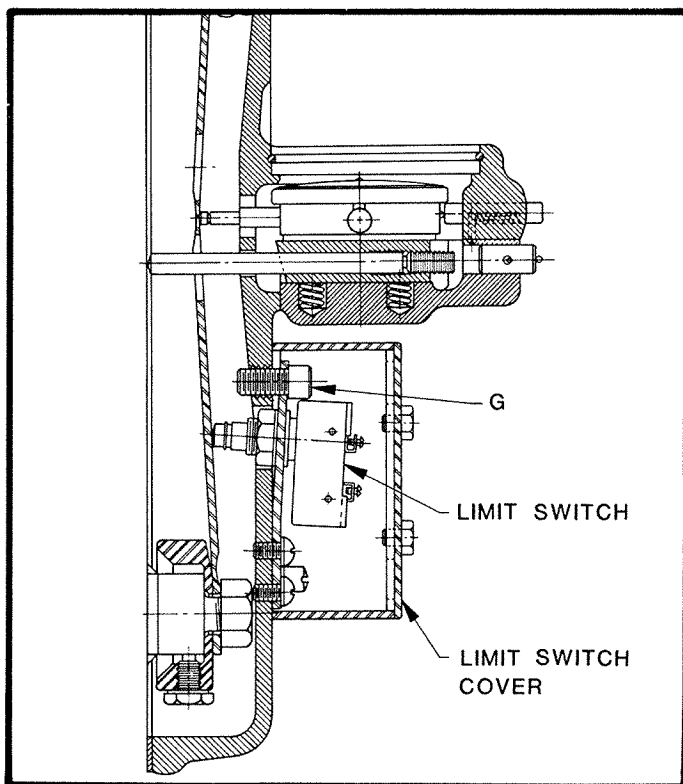

FIGURE 75
1. Remove the limit switch cover (Figure 75).